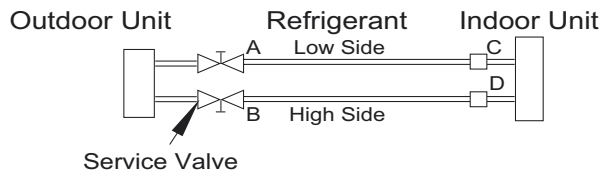

Fig. 46 —Service Valve
3. Fully open the low side of manifold gage (see Fig. 46).